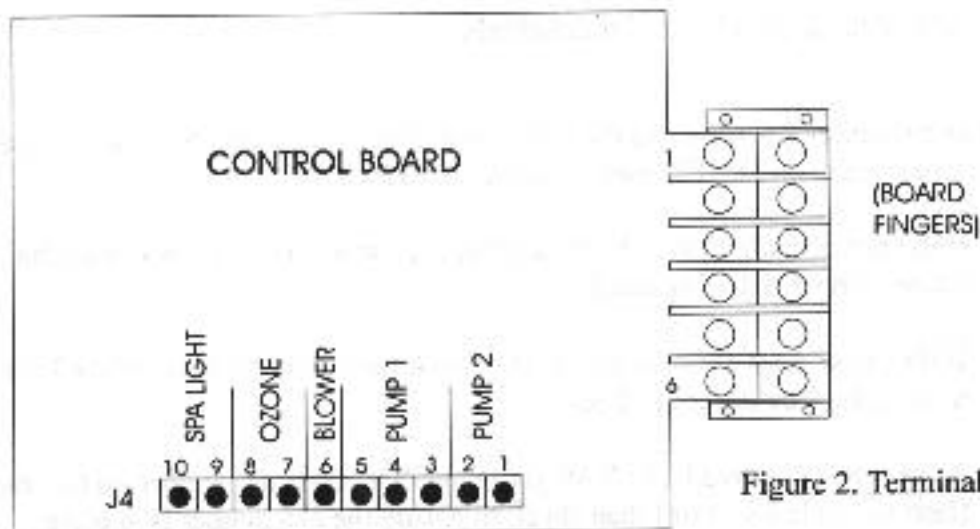

Figure 2. Terminal Block
- a. Probe the black and white wires for pump 1 on J4-3 and 5 with a voltmeter (see Fig. 2). The meter should read 120 VAC or 230 VAC for units with 2 pumps.
- a. Probe input voltage of fingers 1 and 4 of the control board with a voltmeter (see Fig. 2).
- a. Probe positions 9 and 10 of J4 with a voltmeter (see Fig.2). The meter should register approximately 14 VAC.